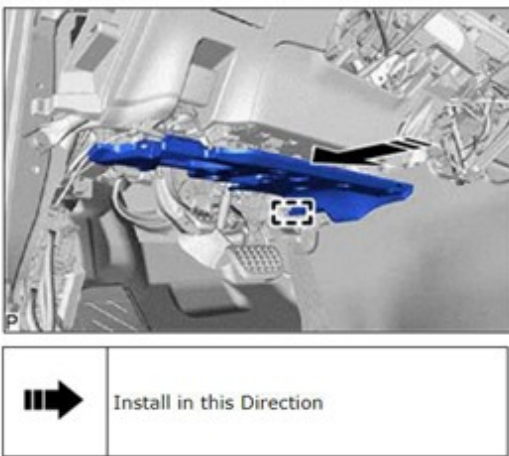

Figure 43
- (d) Engage the guide as shown in Figure 43.
(a) Engage the 3 guides as shown in Figure 43.